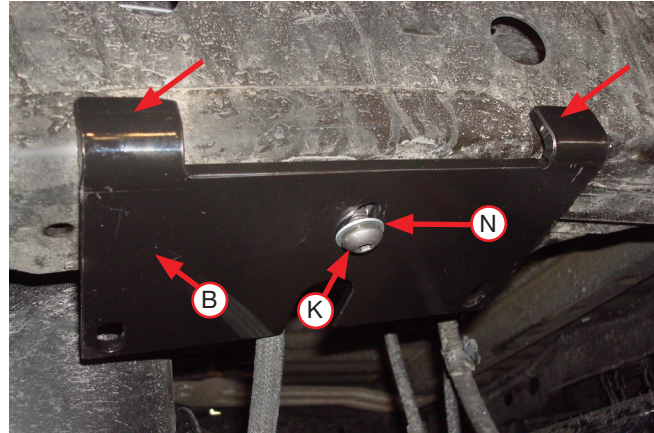
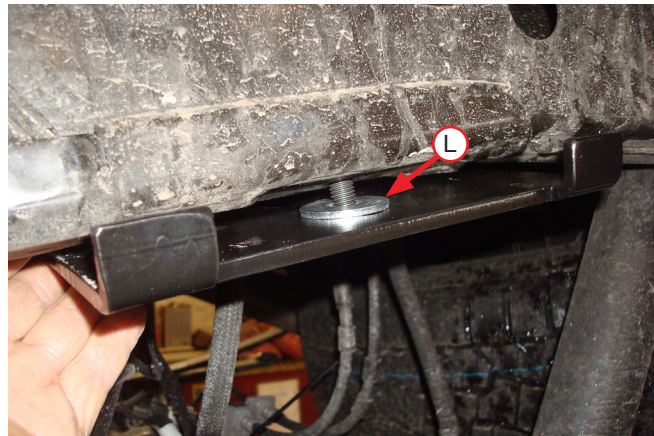

Fig. 5
Fig. 6
1. Insert an M10 button head cap screw (K) through a 3/8" flat washer (N), then through the upper frame brackets (B) and 1/2" flat washer (L). Install the assembly using the existing jounce bumper hole. Align the bracket so the flanges are up against the frame and torque the mounting hardware to 31 lb.-ft. (42Nm) (Fig. 5 & Fig. 6).